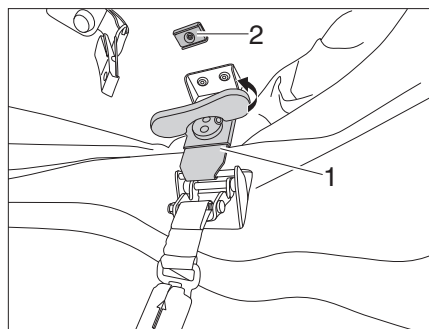
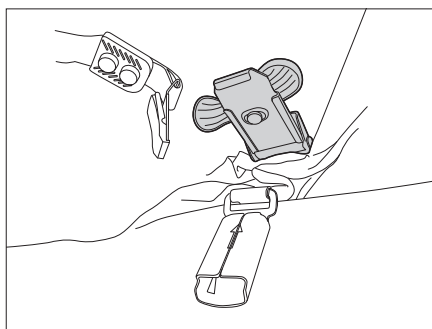

Fig. 37 Releasing the locking mechanisms
Fig. 38 Fastening the locking mechanism
- Set up the twist grips of the left- and right-hand locking mechanism (Fig. 37,1) and turn counter-clockwise until the locking mechanisms are loosened.
- Fold the twist grip further downward and attach the locking mechanism to the magnet (Fig. 37,2) (Fig. 38).